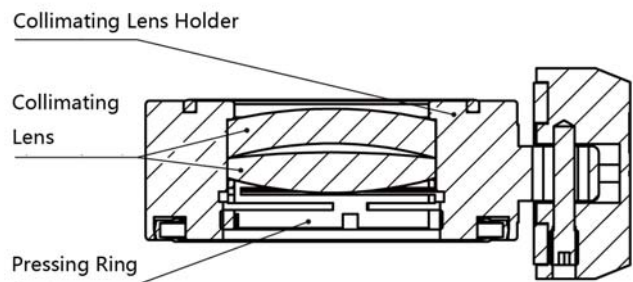

Figure 5.6 – Collimating Lens Assembly Structure
- Reassemble the collimating lens assembly in order (see Figure 5.6), pay attention to tighten the pressing ring properly, and re-screw it into the collimating lens assembly;